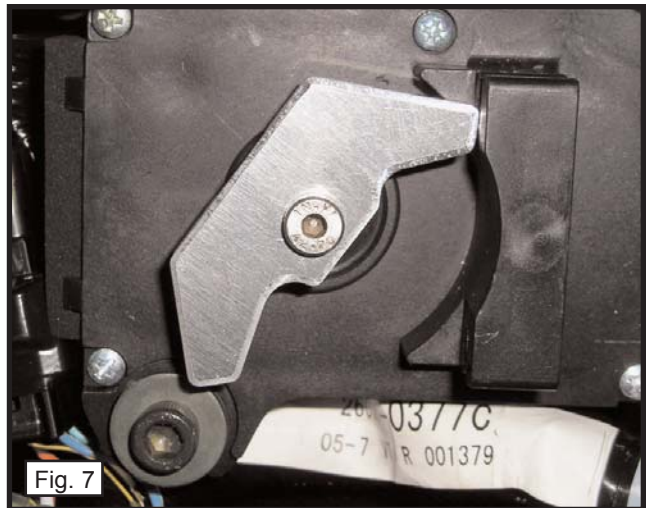

Fig. 7
- 16) Place the supplied aluminum bracket onto the servo shaft as shown. Secure the bracket to the servo shaft using the supplied M5-0.8x10mm socket low head bolt. (Fig. 7)